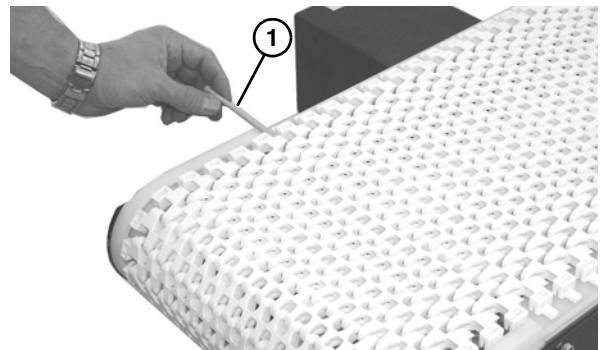

Figure 23
1. Use a punch and hammer to push the belt rod (Figure 23, item 1) out by striking the rod end opposite the retaining head.